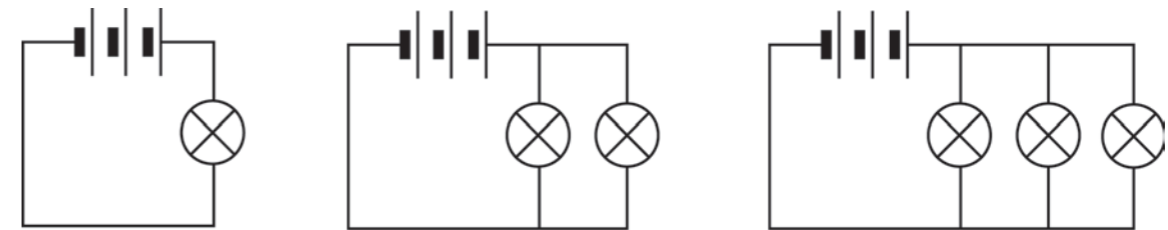

Figure 4: Bulbs connected in parallel
2. Look at Figure 4, and write down your predictions of how bright the bulbs will glow when they are connected in parallel. Then connect the components and test your predictions.